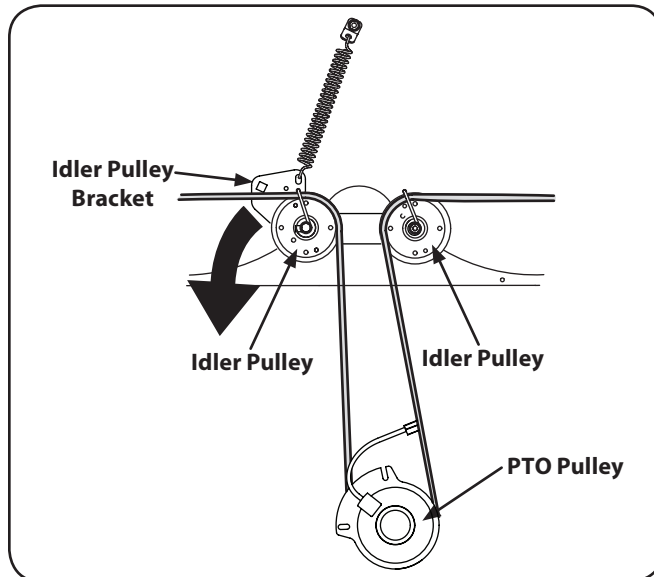

Figure 7-4
- Using a $\frac{1}{2}$ " drive in the idler pulley bracket, turn the wrench towards the front of the tractor and slide the belt off the PTO pulley. See Fig. 7-4.